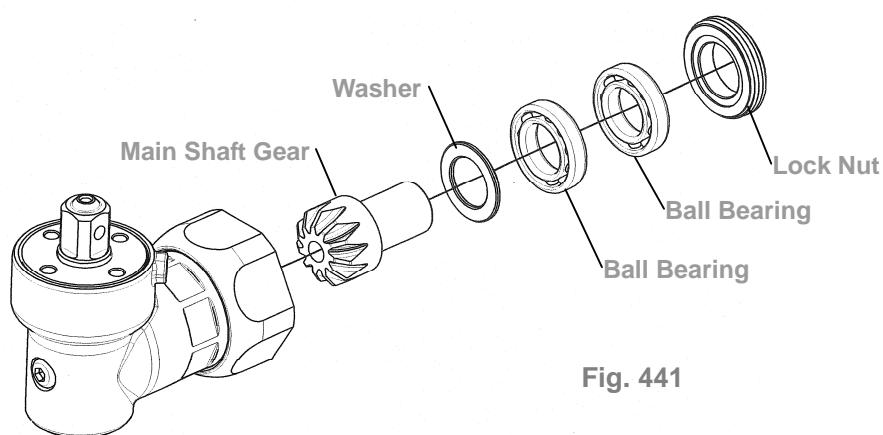

Fig. 441
② Assemble the parts in Fig. 441 one by one orderly into the angle housing. Then, fix the angle housing unit.